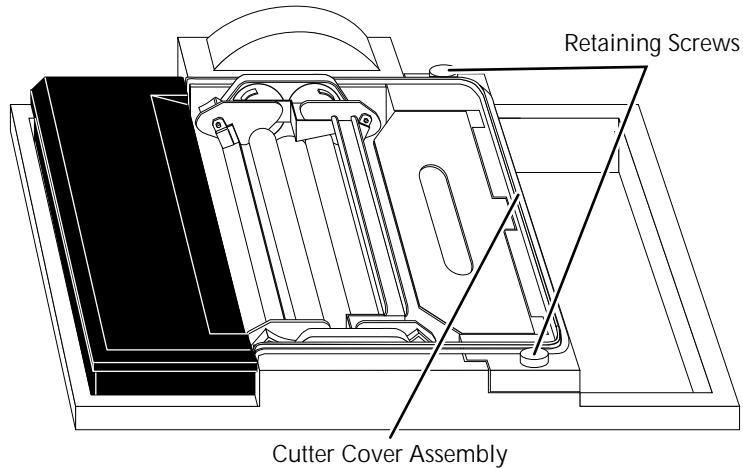

Figure 2.14. Two retaining screws hold the cutter cover in place.
- Unscrew the two retaining screws that hold the cover in place. These screws cannot be removed from the cover even when completely loosened. See Figure 2.14 on page 2-31.